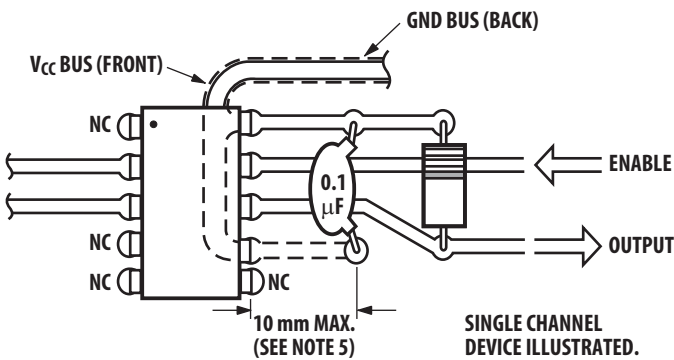

Figure 15. Recommended printed circuit board layout.
2. By passing of power supply line is required, with a 0.1 $\mu\text{F}$  ceramic disc capacitor adjacent to each optocoupler as illustrated in Figure 15. Total lead length between both ends of the capacitor and the isolator pins should not exceed 20mm.